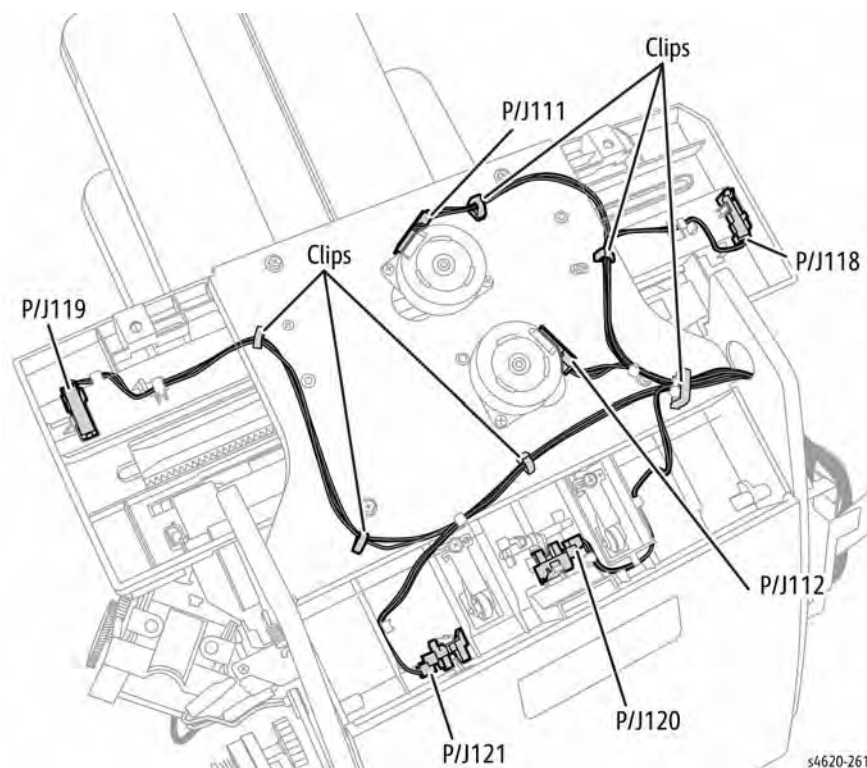

Figure 1 Release the Compile Tray harness
7. Release the Compile Tray harness from 6 clips, Figure 1.